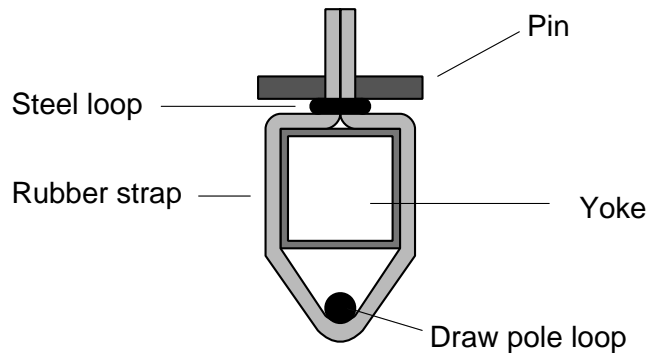

Figure 13: using rubber strap to join cart draw bar loop to yoke.
- 8) Lastly connect the cart to the centre of the yoke using the 400 mm long rubber strap, the 80x15 loop and a bolt as shown in Figure 13.